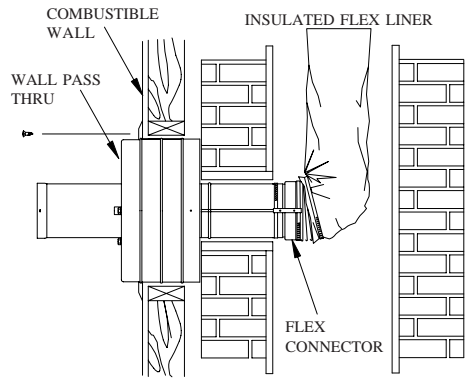

Fig 12
Step 2. If you have a solid-fuel burning appliance, you will need to use a Wall Pass Thru to penetrate through the combustible wall safely and connect to the DuraFlex SS liner inside the masonry (**Figure 12**). You will need to determine where the penetration through the wall will be located (be sure to account for required clearance to combustibles for the connector pipe). You will also need to refer to L403 instructions included with the Wall Pass Thru itself.
Step 5. Attach a Flex Coupler to the end of the Flex Liner (be sure the flow arrow is in the correct direction). Connect the other end of the Flex Coupler to the Wall Pass Thru (**Figure 12**).